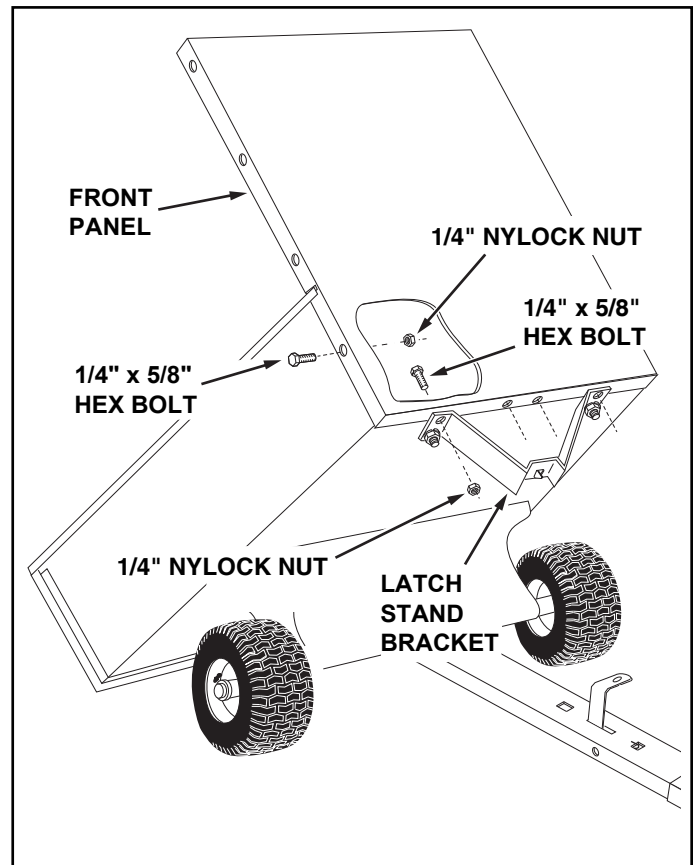

FIGURE 10
17. Release the latch lock lever and tilt the cart bed back. See figure 10.
18. Assemble the front panel to the cart bed, sliding the bottom lip of the panel in between the cart bed and the latch stand bracket. Fasten the panel to the bottom and sides of the cart bed using six 1/4" x 5/8" hex bolts and 1/4" nylock nuts. **Tighten.** See figure 10.